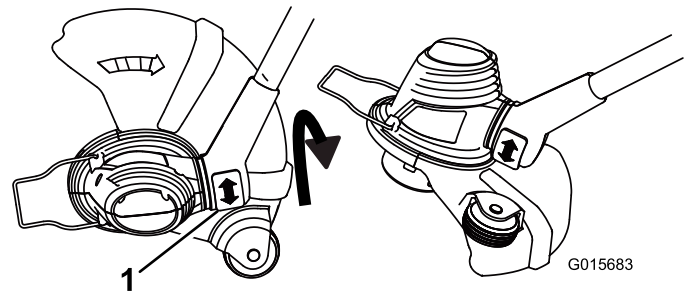

Figure 5
- To adjust the position of the base, press down on the rotator button located at the base of the shaft, then move the base to face the desired direction (Figure 5).